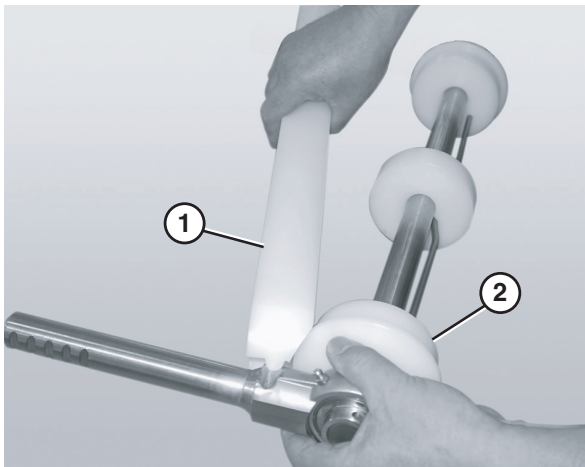

Figure 77
6. Remove the guard bar (**Figure 77, item 1**).
7. Remove the pucks (**Figure 77, item 2**).